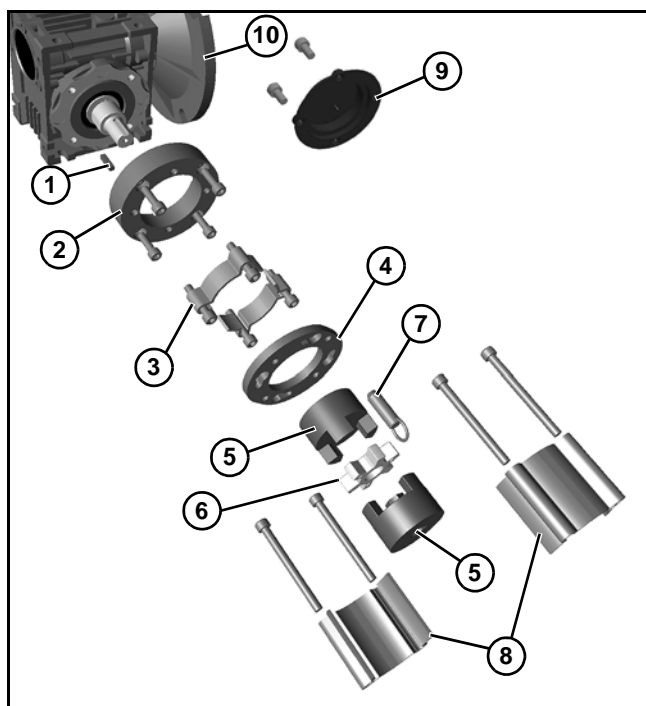

Figure 9
1. Gather installation components (**Figure 9**)